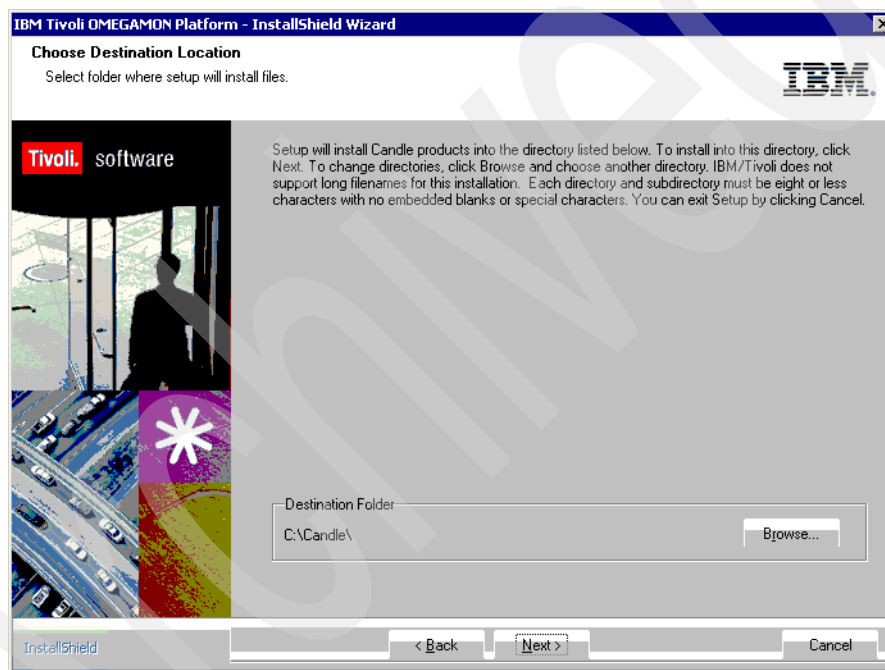

Figure 3-37 Installation directory
2. Figure 3-37 shows that we used the default installation directory for Tivoli Enterprise Portal Server, which is C:\Candle\.